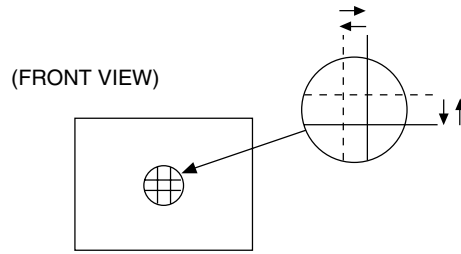

Fig. 7
2. Using 4-pole convergence magnets, overlap the red and blue lines in the center of the screen (Fig. 7) and turn them to magenta (red/blue).